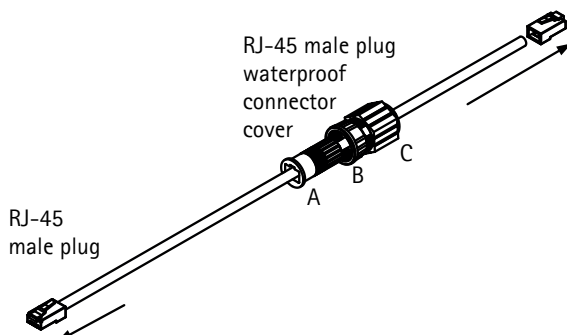

Fig 3
1. Thread male plug waterproof connector cover (A,B and C) on to the Ethernet cable. See Fig 3.
3. Thread plug (A) over the RJ-45 male plug, connected to DATA IN. See Fig 3.
4. Thread housing (B) over the plug and screw (hand tight only). See Fig 3
5. Thread cover (C) over the connector and screw (hand tight only). See Fig 3